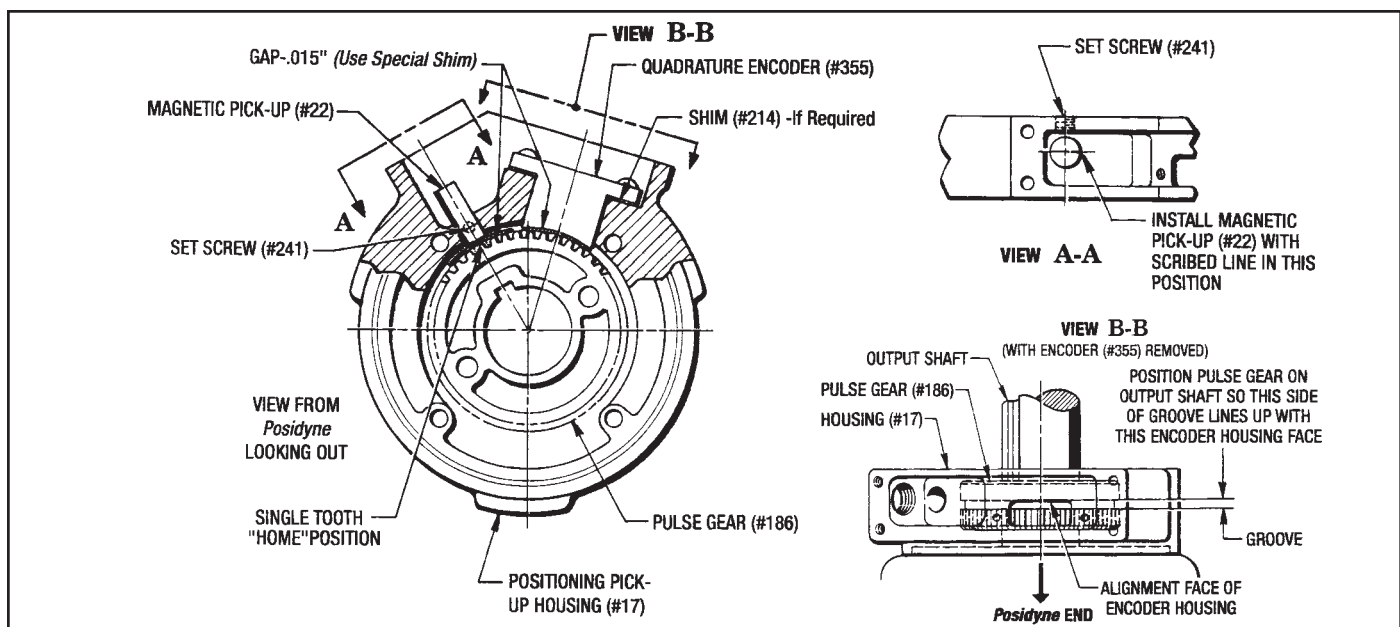

Figure 9.9 - Position Sensors Installation
A. QUADRATURE ENCODER (See Figure 9.9)
- Check the Gap between the Pulse Gear and the Encoder with the Special .015" Shim that you made. If necessary, remove the Encoder and place Shims (#214) under the Encoder. (Usually .015" is sufficient.) Re-attach the Encoder and re-check the Gap. (See Figure 9.9)
B. MAGNETIC PICK-UP SENSOR (See Figure 9.9)
- Insert the Magnetic Pick-Up Sensor (#22) into the hole with the **Scrubed Line** in position as shown in Figure 9.9, View A-A.